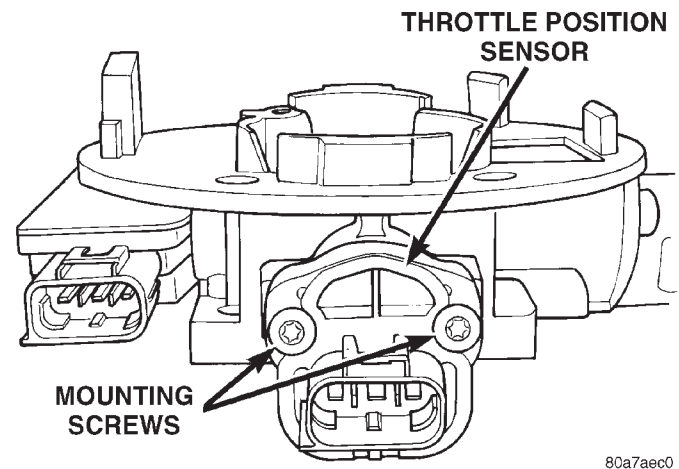

Fig. 40 TPS Mounting Bolts—3.9/5.2/5.9L Engines
- (1) Remove air duct at throttle body.
- (2) Disconnect TPS electrical connector.
- (3) Remove two TPS mounting bolts (Fig. 40).